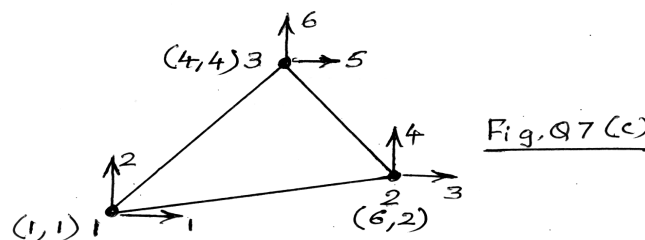

Fig. Q7(c)
c. Find the strains and stresses in the CST element shown in Fig. Q7. The Nodal coordinates are in mm. The nodal displacements are $[0.002, 0.003, 0.0015, 0.002, 0.001, 0.004]^T$ mm. Assume plane stress condition. Take; $E = 70$ GPa and $\mu = 0.3$.